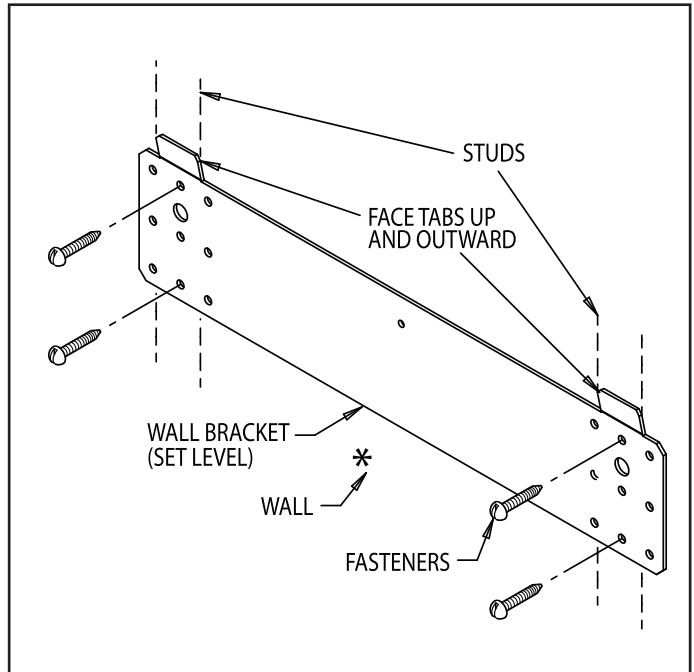

Figure 4a. Wall bracket securement
- A. Provide a solid, level foundation or vertical wall capable of supporting the weight of the boiler filled with water, and extending at least 2" past the jacket on all sides. See dimensions of boilers, page 2. See also figure 4a & 4b for mounting the boiler on the wall.
Be sure that there are studs available in the proper locations, for securing the boiler wall bracket and back panel. (See Figures 4a and 4b).
#### A. INSTALL THE WALL BRACKET. SEE FIGURE 4a.